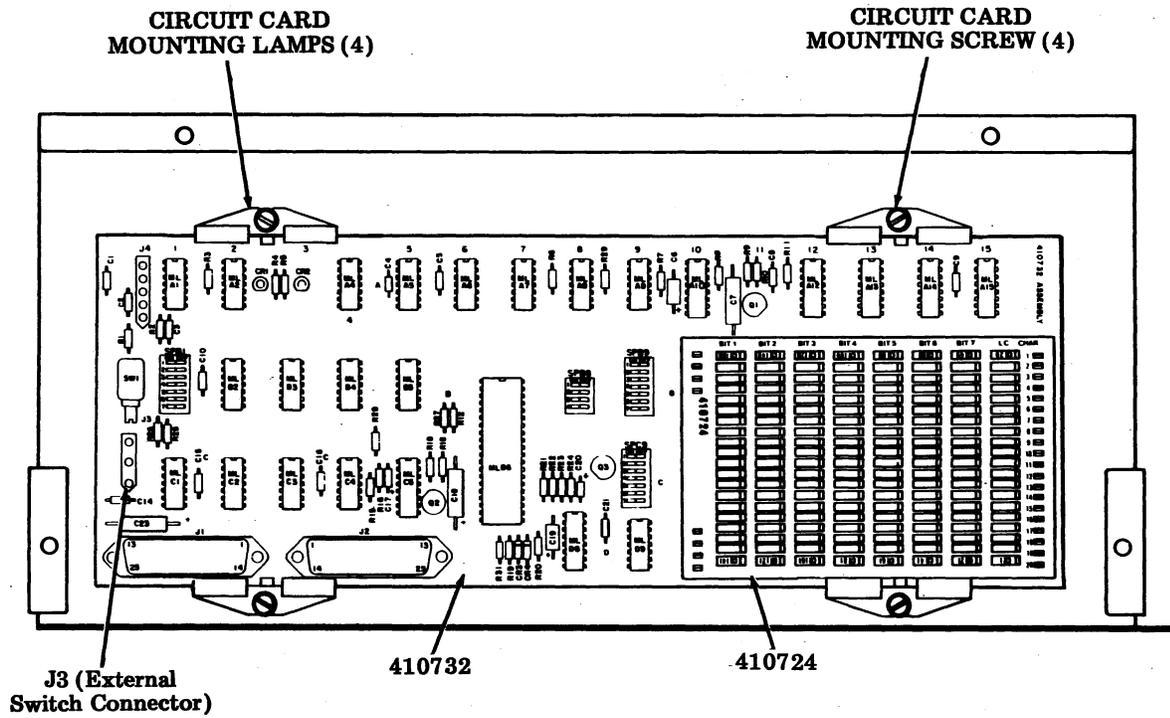

Fig. 33—Circuit Card Mounting in 40AB101/AC
5.10 Remove the 40AB101/AC circuit card assembly (two circuit cards Fig.33 or 35) from the housing.